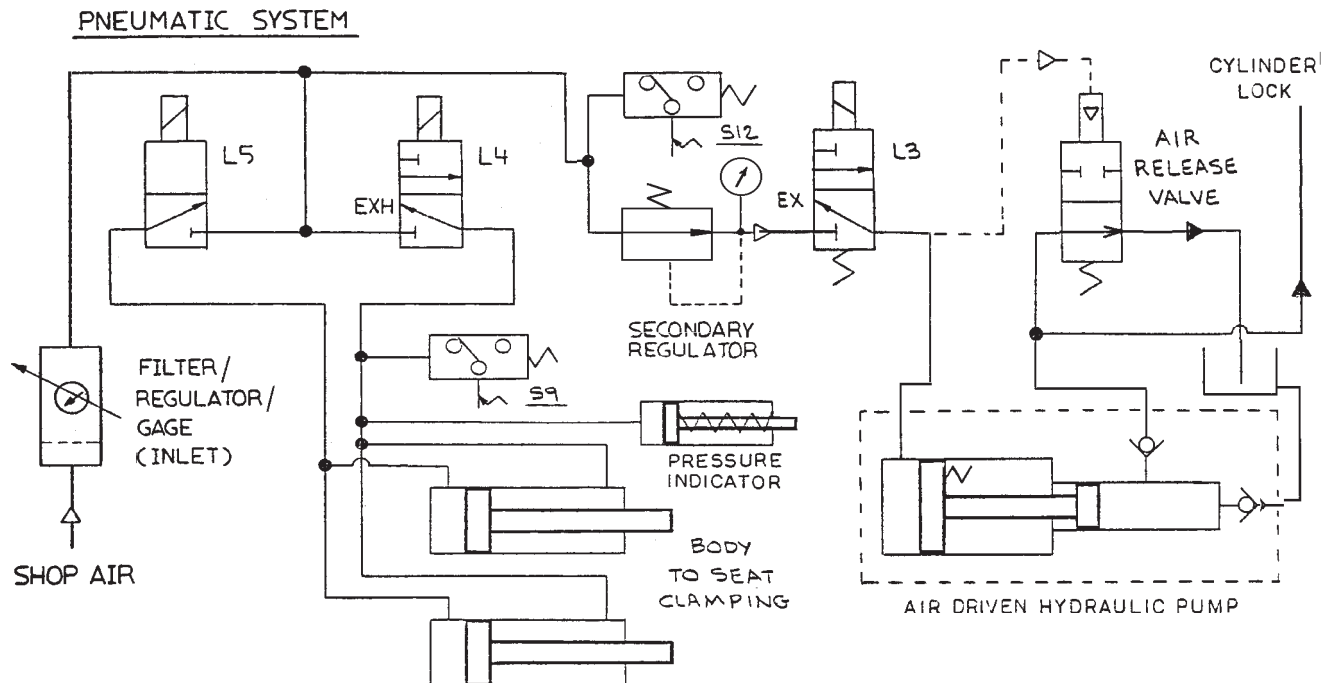

Figure 1-14B. Pneumatic System
1.6 Pneumatic System (Figure 1-14B)